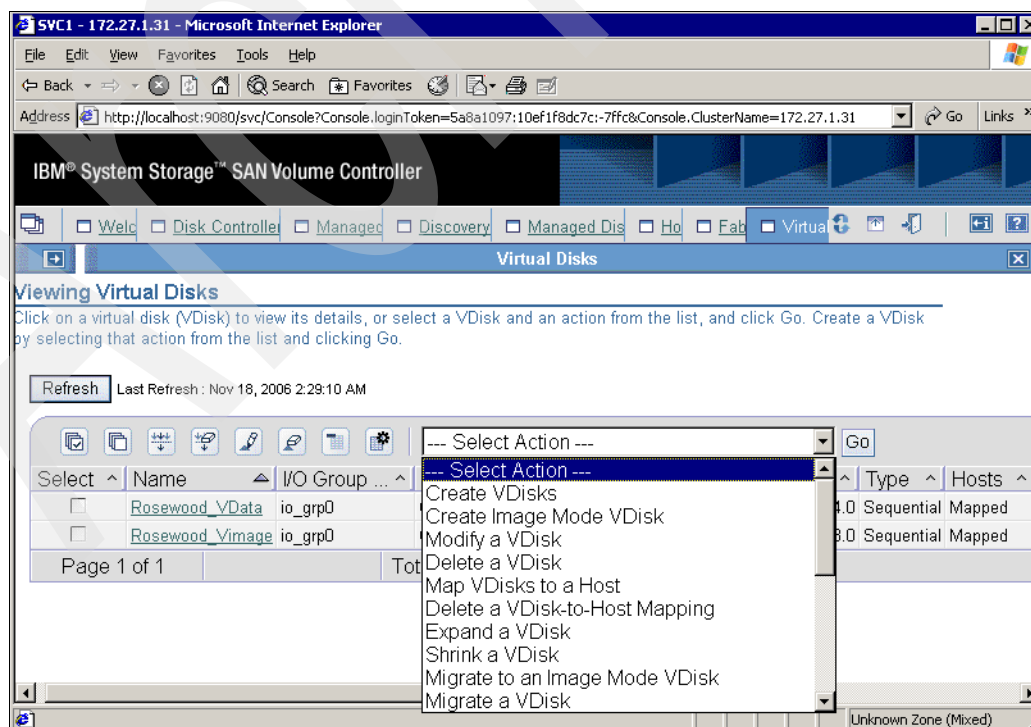

Figure 11-30 Map the VDisk to the host
6. In Figure 11-30, map the VDisks to the host. Select **Working with Virtual Disks** and select the VDisk. From the drop-down **Select Action** menu, select **Map VDisk to a Host**.